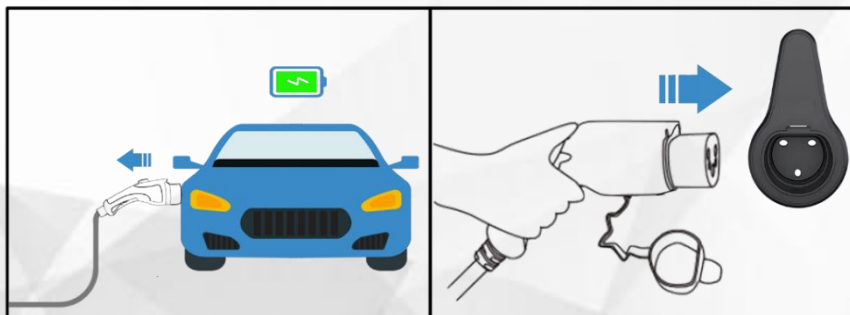

Fig.16
- 5) Return the plug to the holder, as shown in Fig.16